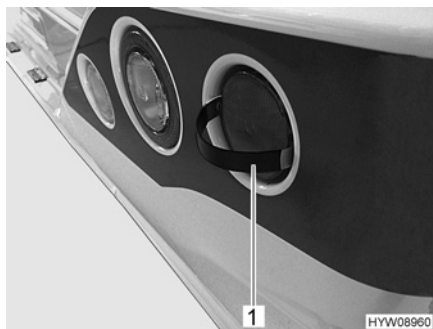

Fig. 126 Remove the cover
- Insert the snap-in lugs of the supplied tool (Fig. 126,1) at the sides of the cover as shown.